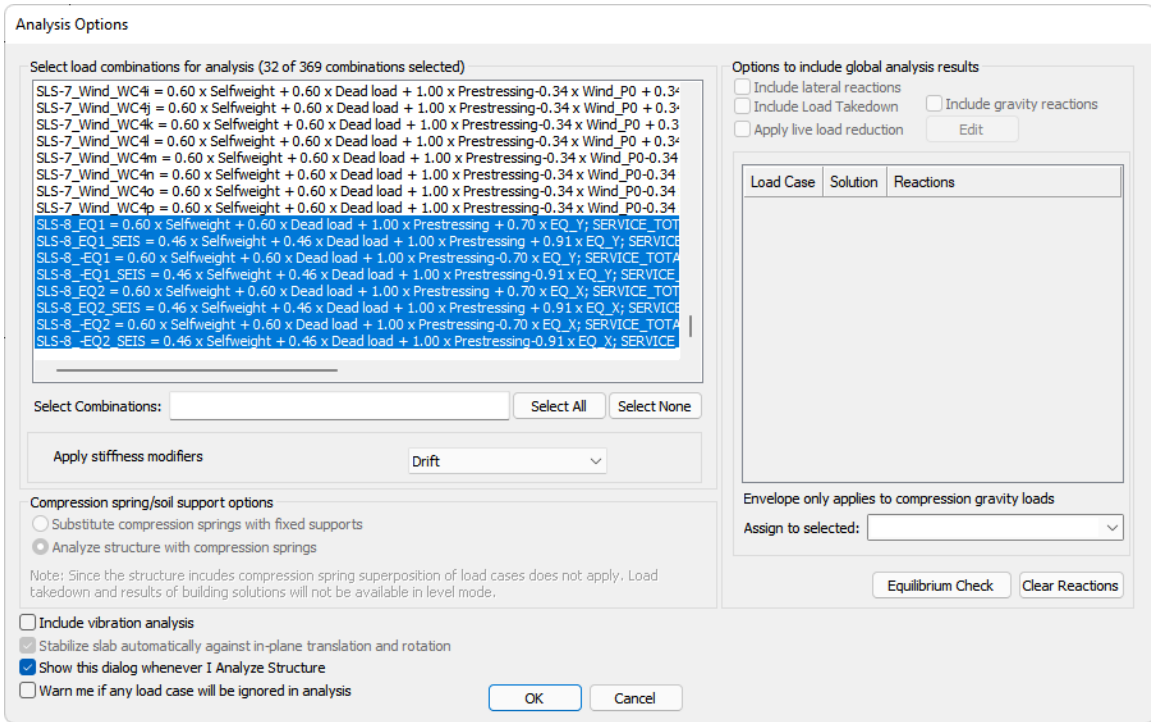

FIGURE 13-2
- **Select** the combinations for SLS that include the Seismic (EQ) load cases. There should be 32 of 369 combinations selected. Use the **CTRL** key to select multiple combinations.
- In the drop-down menu next to *Apply stiffness modifiers*, select **Drift**. Your *Analysis Options* window should now look like **FIGURE 13-2**.